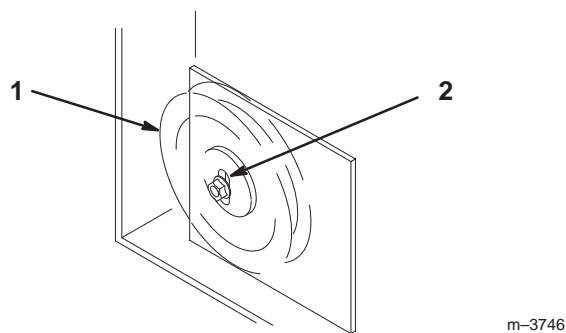

Figure 79
11. If the mower idler plate contacts the end of the adjustment slot and more belt tension is required, a small change to the right side fixed idler can create more belt tension adjustment (Fig. 79).